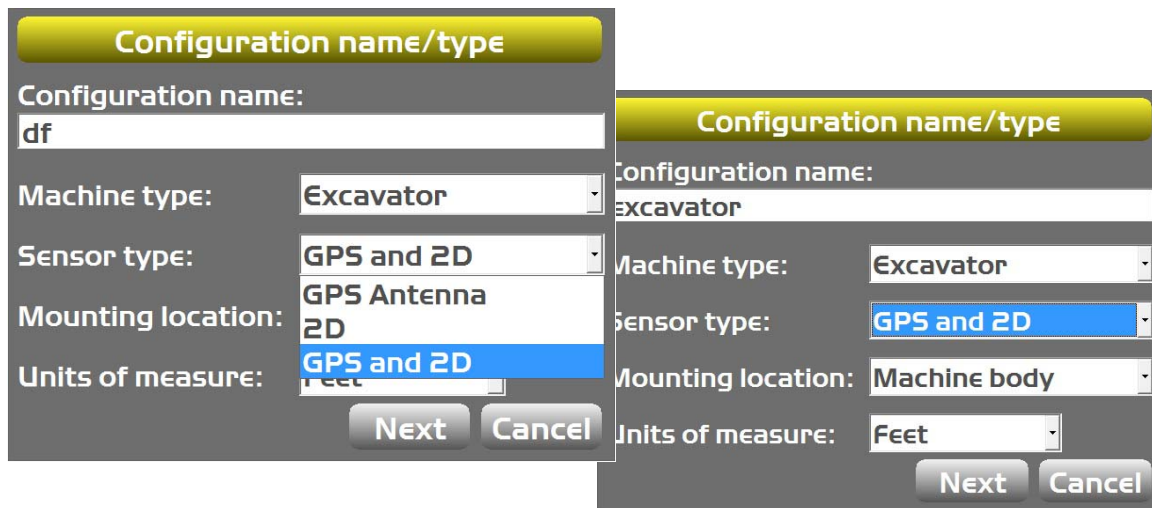

Figure 20: Configuration name/type Screen
3. On the **Configuration name/type** screen, enter or select the appropriate data as needed (Figure 20).